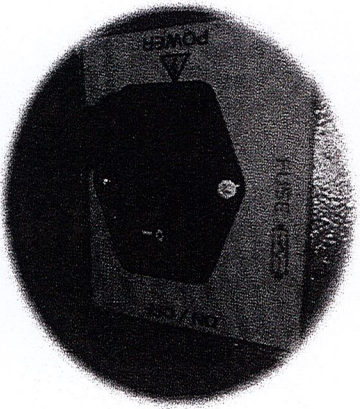

Figure 8: Rocker Switch
- ✓ **ON / OFF ROCKER SWITCH, FUSE and PLUG, Figure 8.**